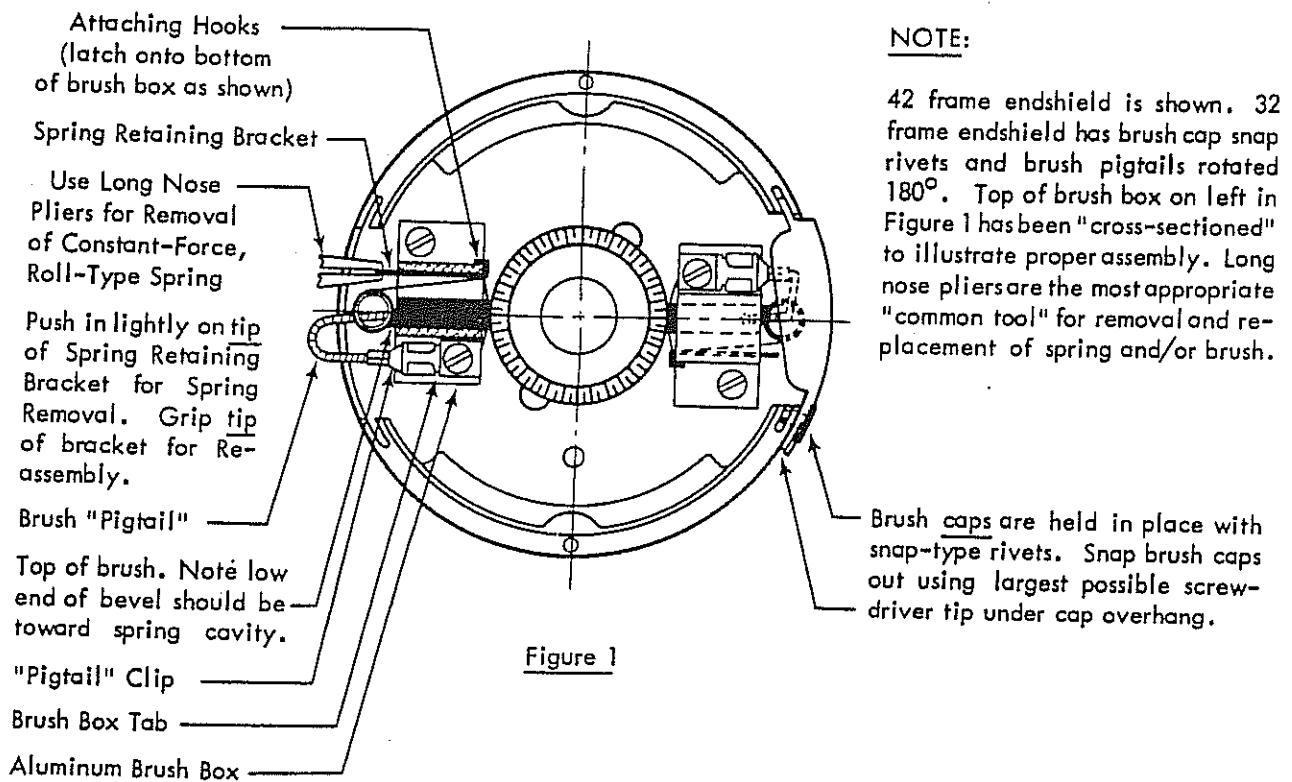

Figure 1
The wear of the Pitching Wheels should be checked periodically to prolong their life and the performance of your pitching machine. Even wear of the pitching wheels is illustrated in Figure 1. Uneven wear results when the Feeding Channel is in an incorrect position.
4. The Remote Receiver can turn the ball delivery on and off the same way the remote control does by pressing on the cover as shown in Figure 1 from the previous page.
Refer to Figure 1. Brush caps are held in place with snap-type rivets. Snap brush caps out using largest possible screwdriver tip under cap overhang. Brushes are retained by constant-force, roll-type springs. To remove springs, press inward on the end of the spring retaining bracket using the tip of a pair of long nose pliers or other appropriate tool. Springs should "pop" out. If they don't, they can be removed by pulling outward on the spring retaining bracket with a pair of long nose pliers. Brushes can now be removed by pulling them out of the brush boxes by their "pigtails". It is not necessary to remove the brush pigtail clip from its connection to the brush box tab for brush inspection.
Correct replacement of brush springs is critical to assure optimum drive performance. Refer to Figure 1. Grasp the tip of the spring retaining bracket such that the roll-type spring will be on the "brush side" of the brush box and resting on the brush when the brush spring is brought up to the brush box. Push the retaining bracket slowly into its slot while letting its two attaching hooks slide on the wall of the brush box. Stop, but do not release the retaining bracket when its hooks slip around the edge of the brush box. While still grasping the retaining bracket with the pliers, slowly bring the bracket back out of the brush box until the hooks latch
around the edge of the brush box as shown in Figure 1. Release the pliers. If the retaining bracket is properly seated it will be lying flat against the brush box wall. If it is "cocked" to one side, it is improperly seated -- release the spring (See "Brush Removal") and reassemble it again. As a final check, apply slight pressure on the retaining bracket in the direction away from the brush with the tip of the pliers -- not "popping" out indicates proper latching of the hooks. Position the pigtail of each brush as shown in Figure 3 so that the pigtail will "feed" into the brush box slot as the brush wears down. The pigtail should be formed to rest against the non-metallic endshield as shown in Figure 3. It must not come in contact with any metallic surfaces other than the brush box.
IMPORTANT -- Make certain that the roll-type springs are positioned directly on the brushes. Refer to Figures 1 and 4.